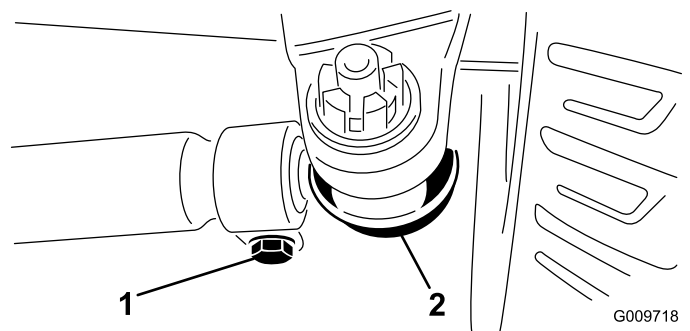

Figure 75
2. To adjust, remove the cotter pin and nut from either tie rod ball joint (Figure 75). Remove tie rod ball joint from axle case support.
3. Loosen the clamps at both ends of the tie rods (Figure 75).
4. Rotate the detached ball joint inward or outward one (1) complete revolution. Tighten clamp at loose end of tie rod.
5. Rotate the entire tie rod assembly the same direction (inward or outward) one (1) complete revolution. Tighten clamp at connected end of tie rod.